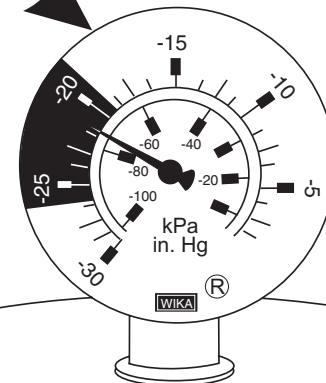

Figure 18. Pump Vacuum Tester
3. As shown in Figure 18 (next page), place a water hose inside the discharge opening of the pump, and turn on the water. This flow of water into the discharge opening will **prevent** the pump from running dry.
4. Place the **Pump Vacuum Tester** (P/N 7000030) over the pump suction (inlet) opening (Figure 18) with the vacuum gauge facing upwards. It may be necessary to apply a small amount of water around the rubber seal of the vacuum tester to make a good suction fit.